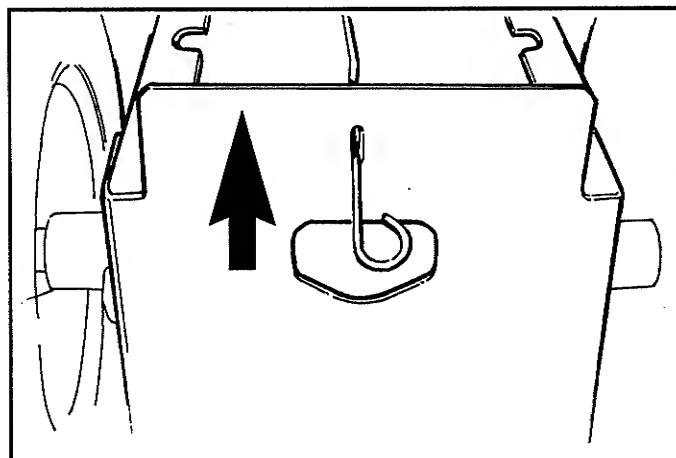

Figure 14B. Hydro Transaxle Release Lever - Drive Position
4. See figure 14B. To drive the tractor, release lever must be moved to the DRIVE position by pushing lever up and in until lever locks in DRIVE position.